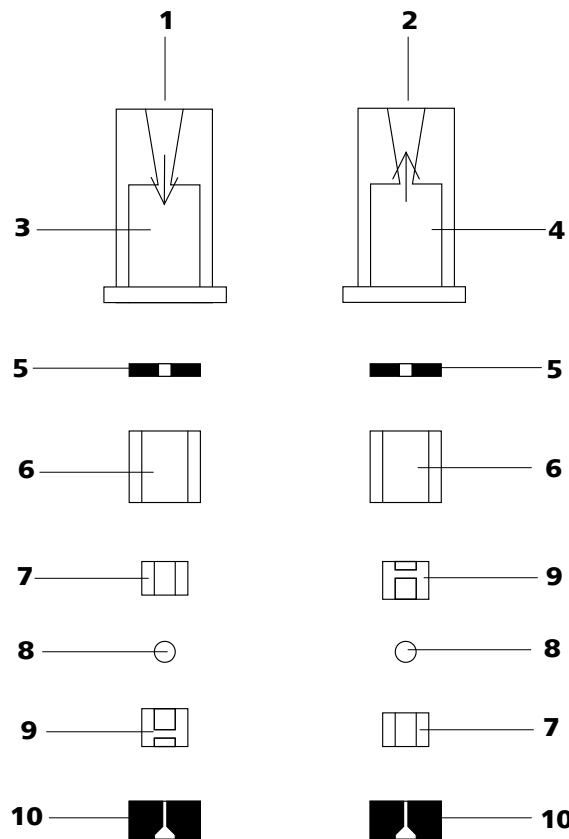

Figure 36 Components of the inlet valve and outlet valve
- The inlet valve and the outlet valve consist of the same, just differently arranged components (see Figure 36, page 73).
Reassemble valve components *according to figure 36, page 73*.
- Lay the other valve components above another in the correct sequence (*see Figure 36, page 73*).
If this is not the case, the valve has to be dismantled again and be reassembled correctly (see Figure 36, page 73).